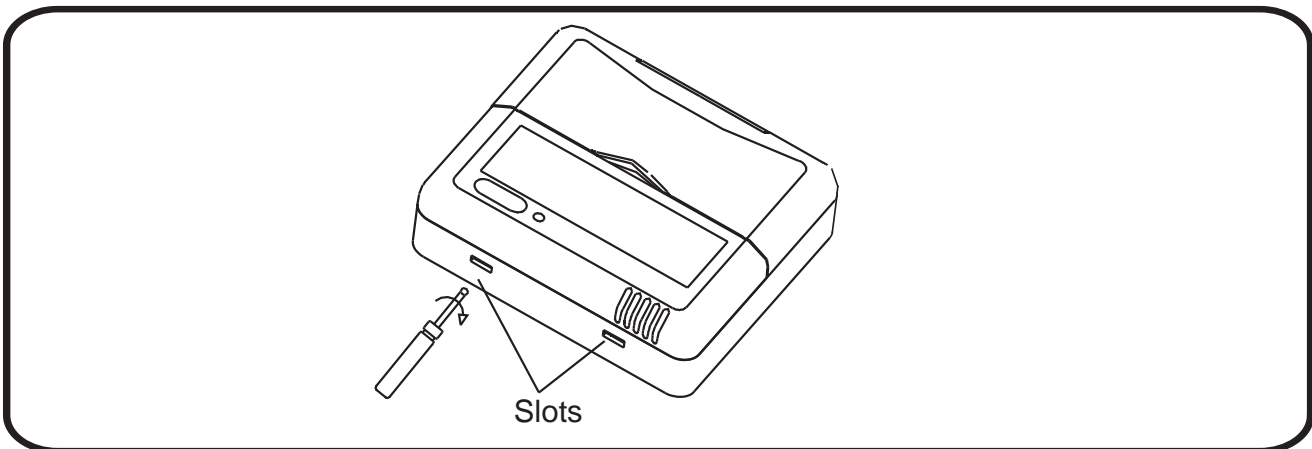

Figure 2. Remove cover from wall plate.
2. Remove the cover from the wall plate using a flat-head screwdriver. See figure 2.